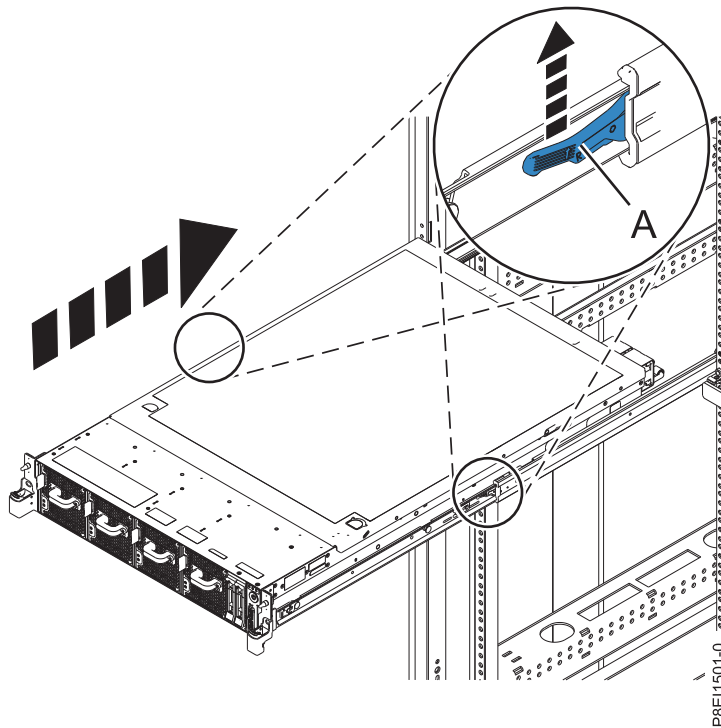

Figure 223. Placing the system into the operating position
2. Align the system unit on to the rails and push the system unit back into the rack until both release latches lock into position. See Figure 223.